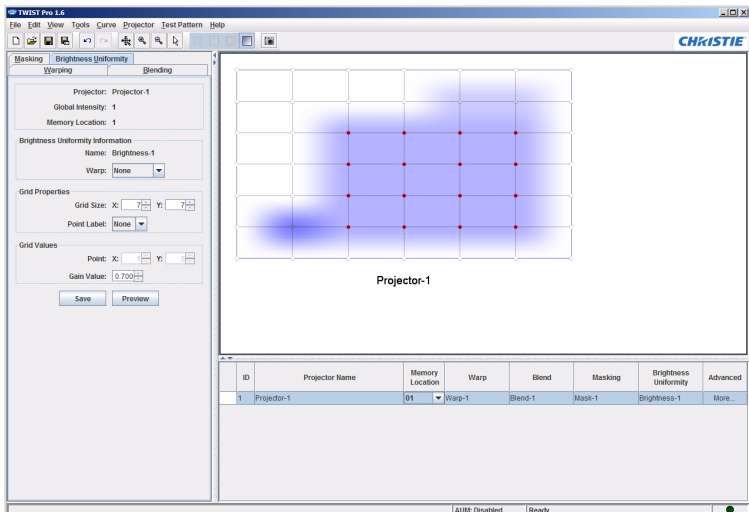

Figure 10-6 Show Gradient Feature
3. Specify a single gain value for the currently selected control point(s) in the **Gain Value** field. The brightness value at each of the points can range from fully black (0.0) to unmodified (1.0). Depending on the gain value specified the control point will turn white to indicate full brightness or black for full darkness (**Figure 10-6**).
Use this feature to view the drop off from edge blends and brightness uniformity in the workspace. This feature is useful when working with advanced blending and brightness uniformity. From the Brightness Uniformity Tab the brightness uniformity being worked on is displayed (**Figure 10-6**). From all other tabs a combination of the brightness uniformity matrix, edge blends and global intensity is displayed. To view the gradient click on the **Show Gradient Image** button .